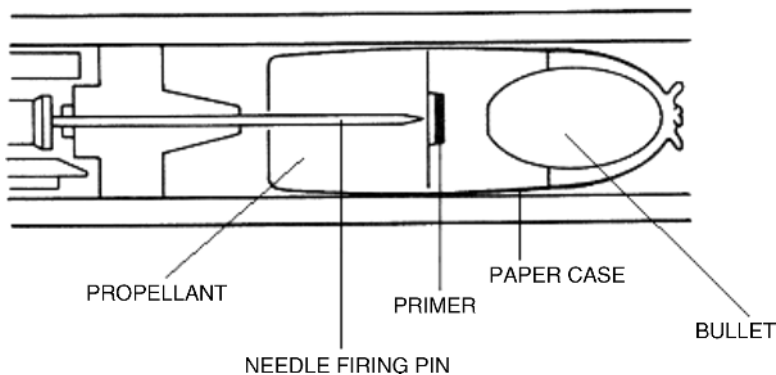

Figure 1.0.8 The Dreyse needle fire.
1.0.6 The Dreyse needle fire system (Figure 1.0.8)